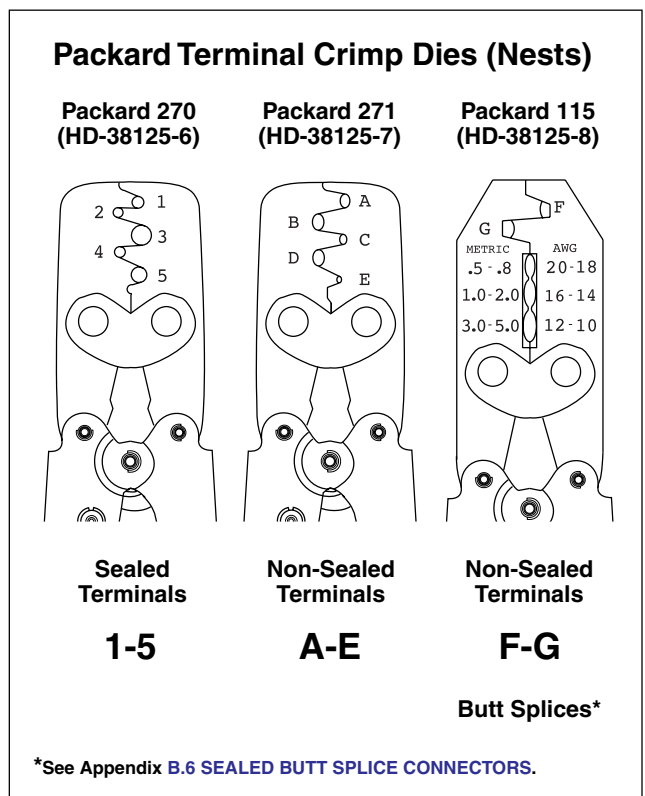

Figure B-36. Packard Terminal Crimp Tools
3. See Figure B-36. Determine the correct die or nest for the core crimp.
8. See Figure B-36. Determine the correct die or nest for the insulation/seal crimp.